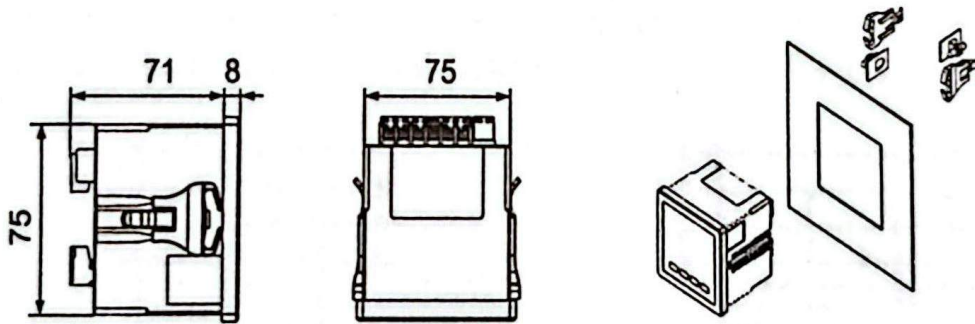

Fig.2
4.2 Panel Size(mm): 80×80 Hole Size(mm): 76×76 Depth(mm): 71 (See Fig.2)